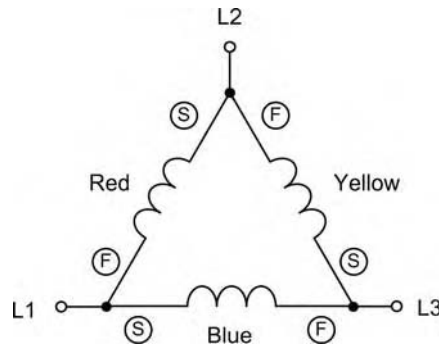

Figure 5.194 Delta connection.
- delta (as shown in Figure 5.194).